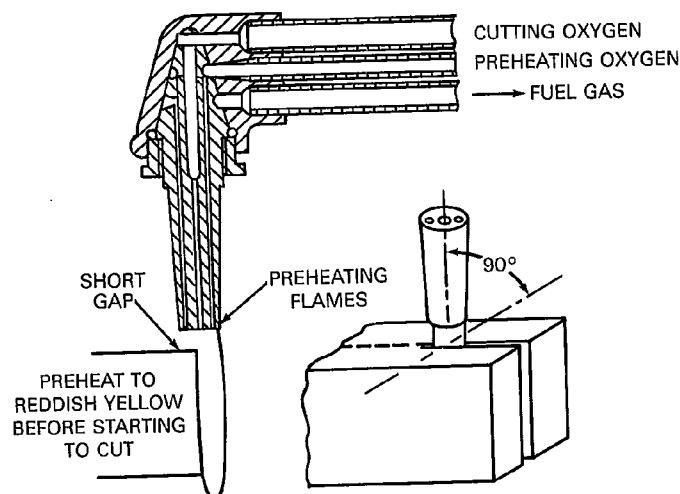

Figure 12—Cutting Torch Starting a Cut and In Action
6.1.1 The most common method is to place the tip halfway over the edge, holding the end of the preheat cones 1/16 in. to 1/8 in. (1.6 mm to 3.2 mm), above the surface of the material to be cut (see Figure 12).